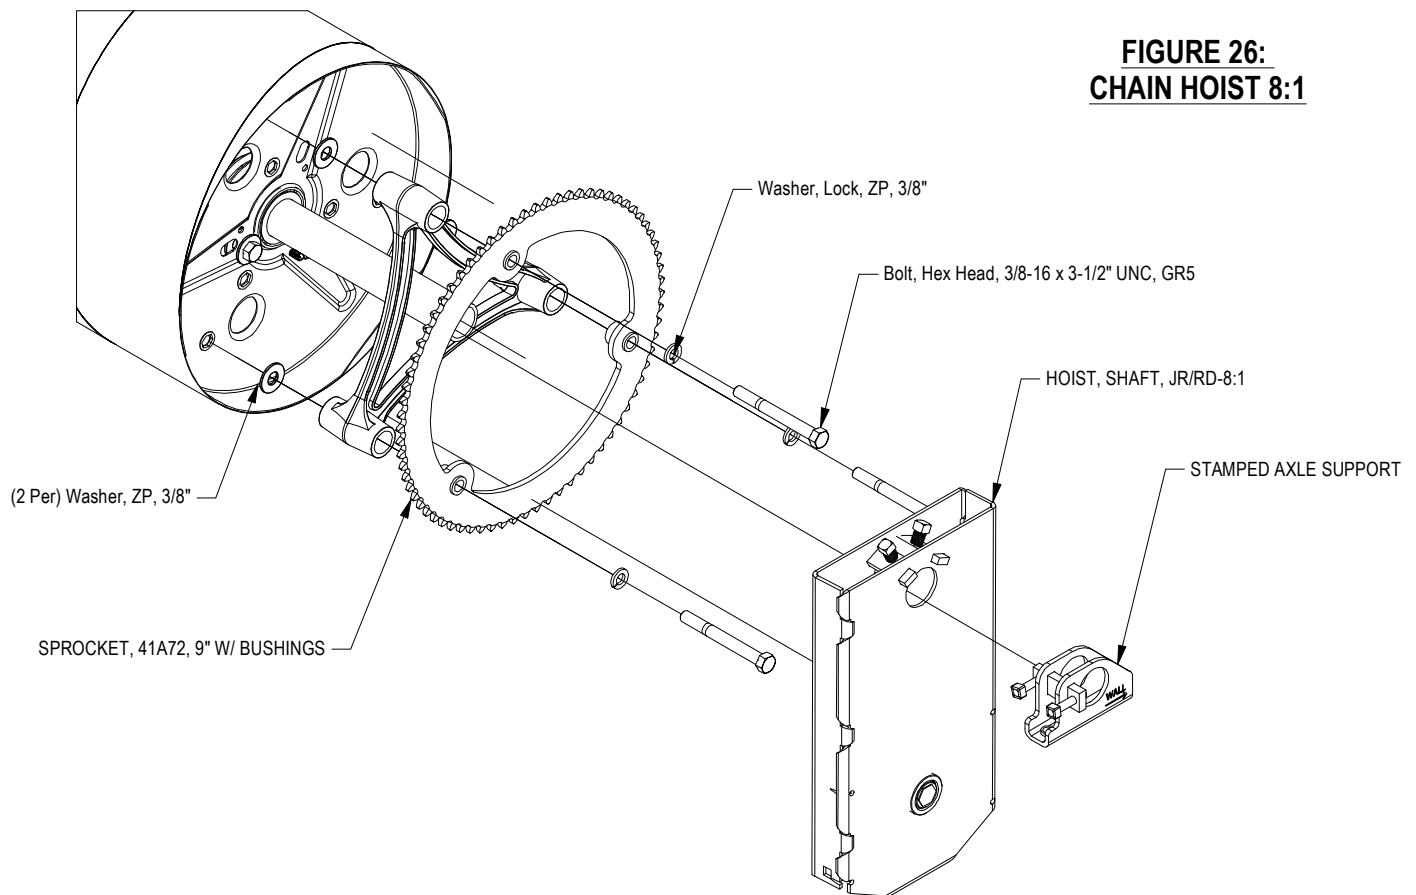

FIGURE 26:
- ▶ Attach Support Spacer, and Sprocket to Drum using (6) $\frac{3}{8}$ " flat washers, (3) $\frac{3}{8}$ -16 x 3- $\frac{1}{2}$ " hex bolt and $\frac{3}{8}$ " lock washers
- ▶ Tighten $\frac{3}{8}$ " - 16 square head set screws when in place. **See Figure 26.**